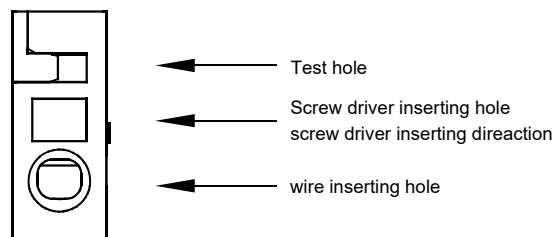

Figure 3
- The insertion position of the wire and the screwdriver and the insertion direction of the screwdriver are as shown in Figure 3.